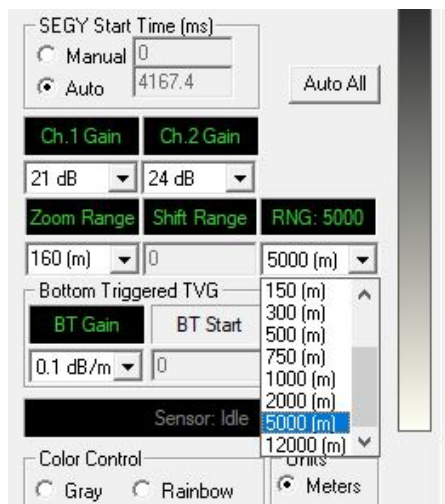

Figure 8: Selecting total water depth range.
Select the depth range for the water depth you anticipate the ship is in (*Figure 8*).
1. Change the depth range as shown above in *Figure 8*. It could be that the sonar is set to the wrong range.